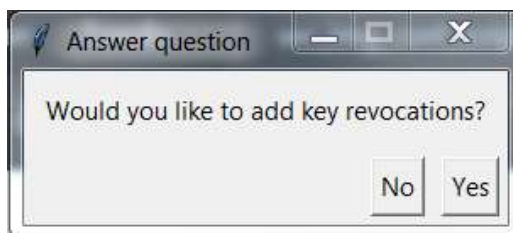
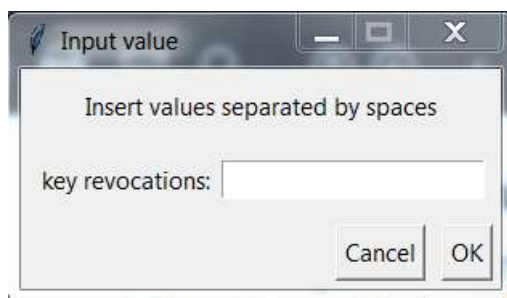

Figure 60: add key revocations selection
Figure 61: key revocations values window
10. In this optional step, shown in Figure 60, the user can enter public key index/indexes or address/addresses (Figure 61) which will be revoked after image validation on the platform. Allowed values are number of indexes of asymmetric keys (0 – 3 for DA1468x Platform) or addresses of symmetric keys (s0 – s7 for DA1468x Platform).